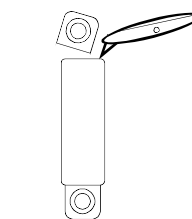

Fig. 4. Remove mounting plate tabs with utility knife only.
- Install transmitter mounting plate and magnet.** Use #6 flat-head screws or double-sided tape (supplied) to secure (the screws **MUST** be used in UL installations). If using internal magnetic reed switch, observe reed switch alignment marks on both the transmitter cover and magnet housing. Mount magnet within **5/8"** of the transmitter front cover. If only the internal reed switch is to be used, skip to Step 6. If mounting the magnet with the double-sided tape, mounting plate tabs may be removed--**use a utility knife only--do not bend** (see Fig. 4).